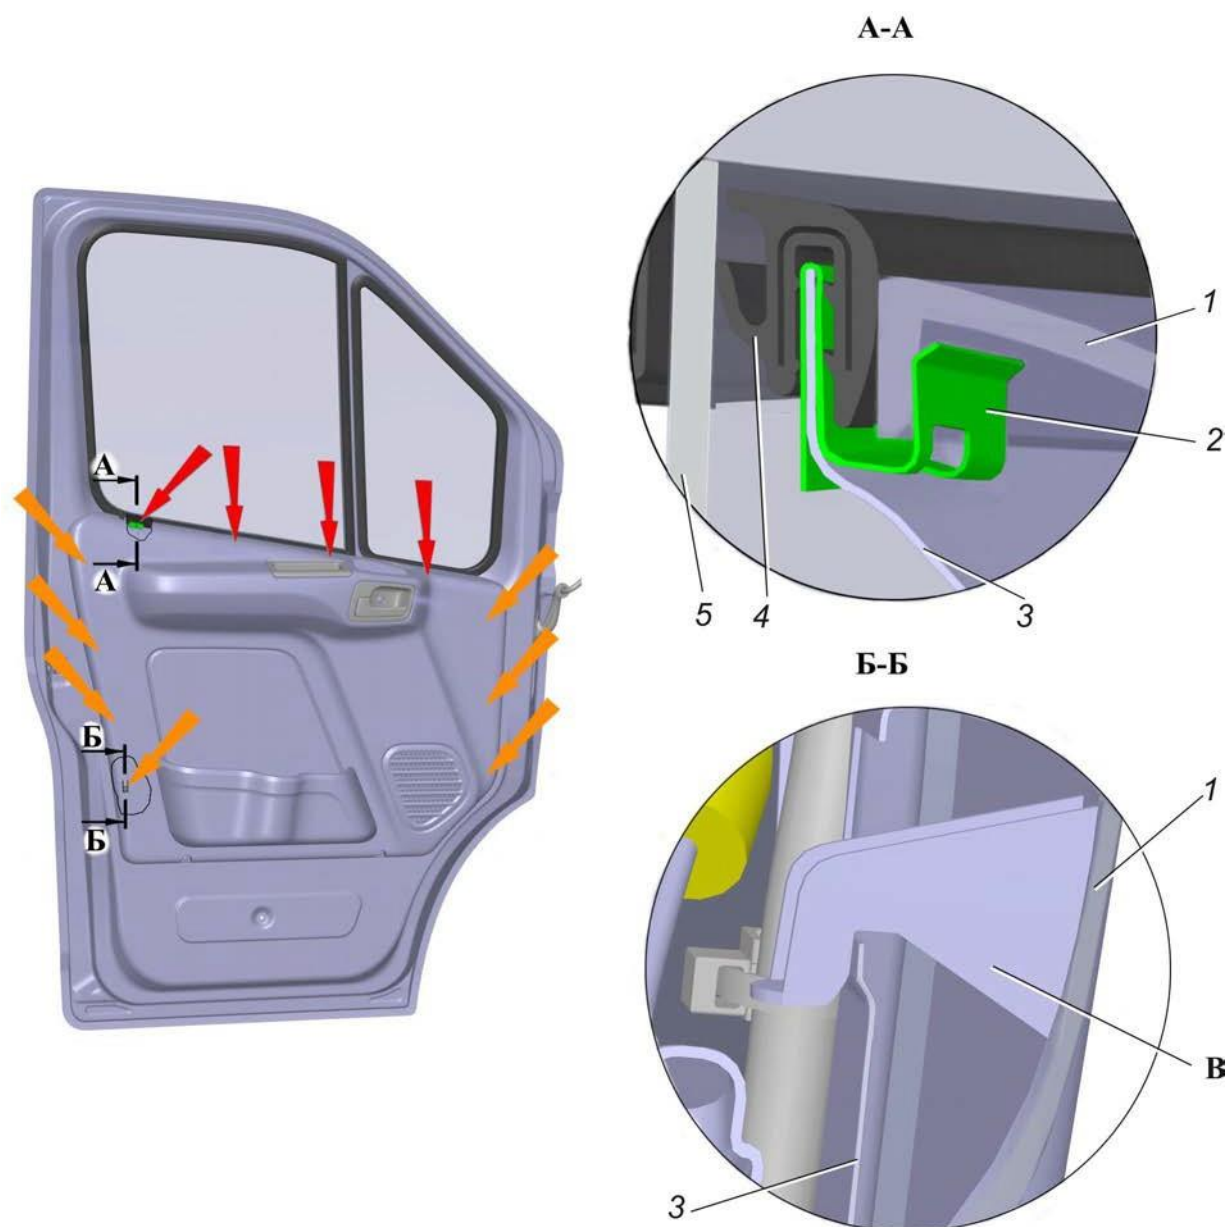

Fig. 8.25. Door trim fasteners: 1 – door trim; 2 – trim holder; 3 – door inner panel, 4 – glass seal; 5 – glass
- sliding the trim up, remove its upper part from the four holders 2 (Fig. 8.25), and disengage from the door seven protrusions C located on the sides of the trim – for the front doors;